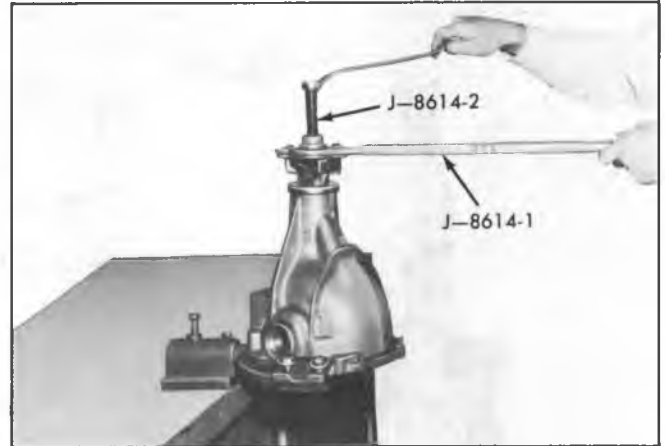

Fig. 9C--Removing Companion Flange
3. Pull companion flange using J-8614-1 Holder with Puller J-8614-2 as shown in Figure 9C.